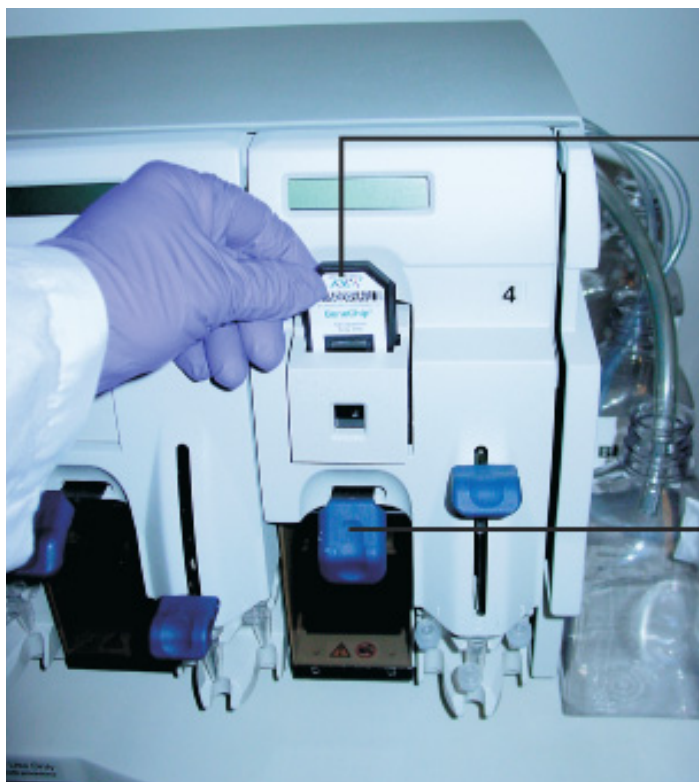

Figure 7.1 Disengaged washblocks showing cartridge levers in the down position. Remove any cartridges
1. Disengage the washblock for each module by pressing down on the cartridge lever. Remove any probe array cartridge Figure 7.1 on page 102.